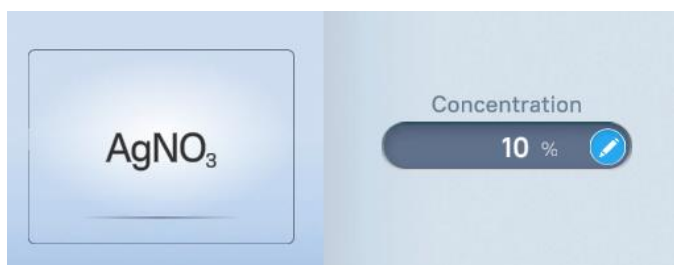

Figure 28 – Example of an Object Constructor with parameter setting using a Numpad
For each parameter, the name (1), its current value (2), and the method of setting the value (3) are indicated. For parameters with a range setting, the range of permissible values is also specified (Figure 28).